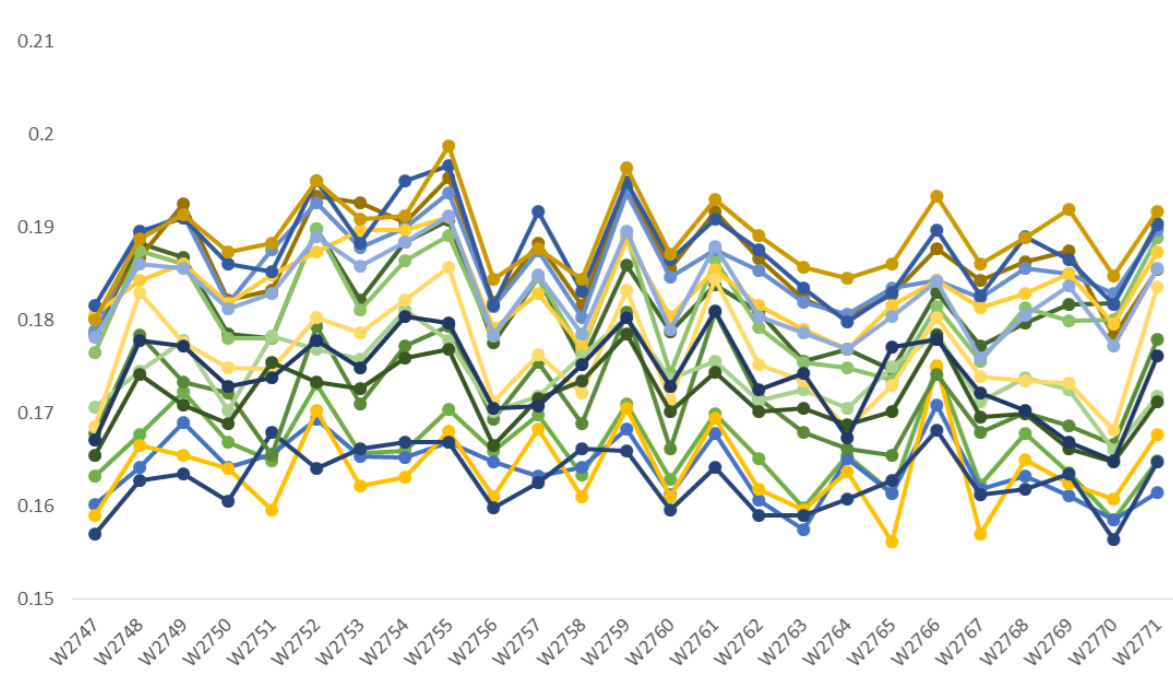

Fig 4: Site Correlation
- The variation between lots and sites are much higher as shown in Fig 4 and 5.